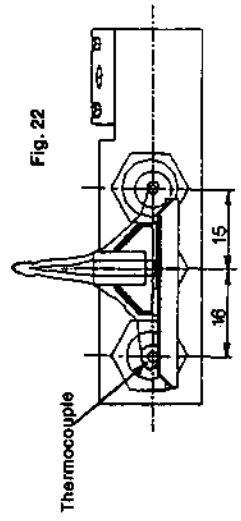

Fig. 22
- 6.5.5** The pilot flame should remain alight, and envelop the thermocouple (see fig. 22). If it goes out, wait 3 minutes and repeat from 6.5.4
6.5.7 Refer to fig. 22 and check that the pilot flame is correct. If it is necessary to adjust the flame refer to cl. 5.7.2 for access instructions. Fig. 23 shows the location of the adjustment screw. Turning clockwise decreases flame and vice versa.